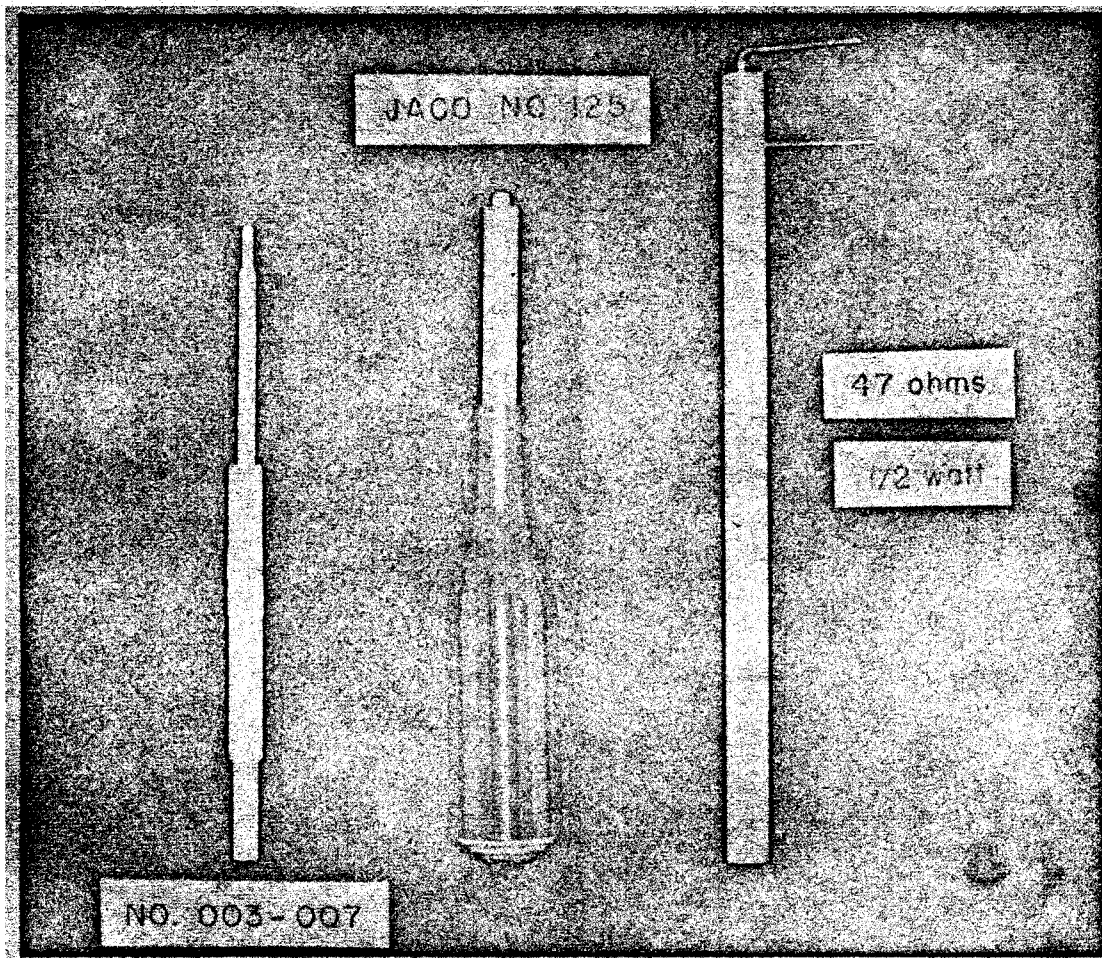

Fig. 1. Certain items listed for testing and alignment of 540-Series oscilloscopes.
6. Tektronix No. 003-007 Alignment Tool (see Fig. 1).
7. Insulated alignment screwdriver, such as Jaco No. 125 with 1/2-inch shank (see Fig. 1).
8. 47-ohm 1/2-watt composition resistor, taped or mounted on end of plastic rod about 6 inches long (see Fig. 1).